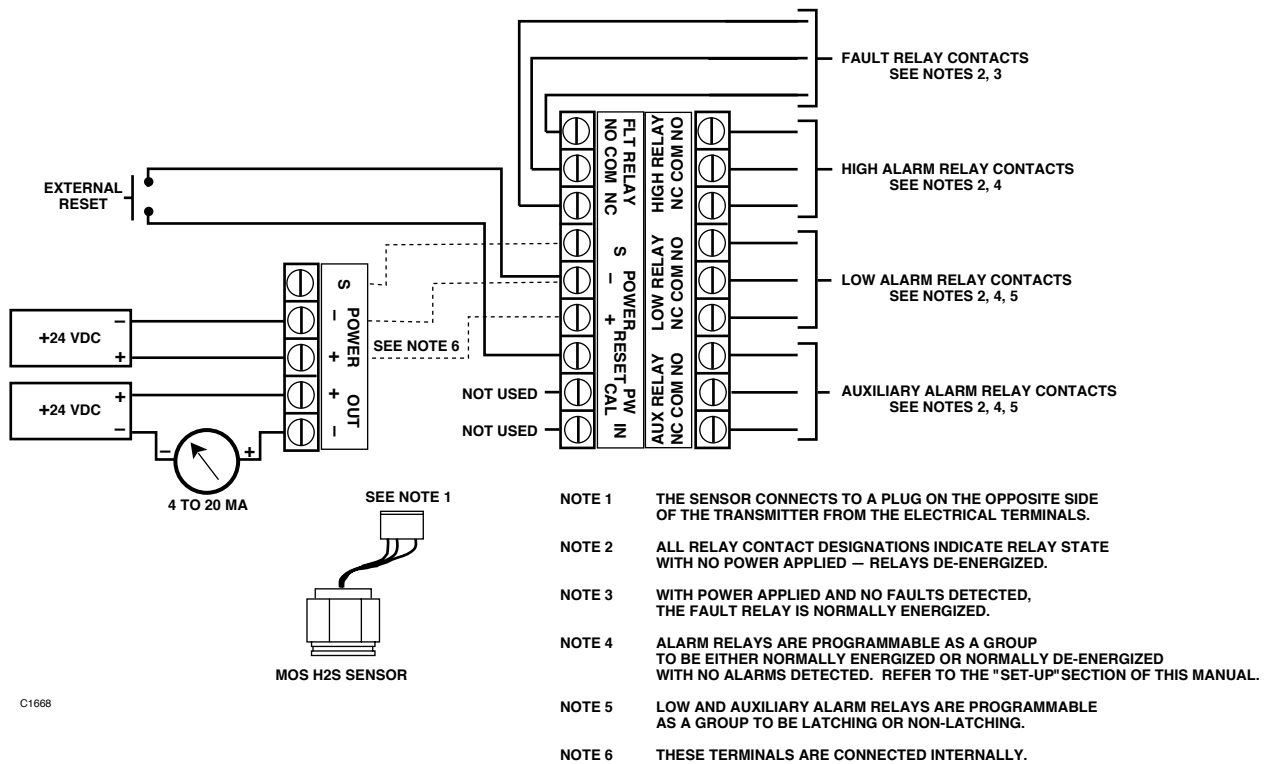

Figure 6—A Typical System - Infiniti Transmitter with Isolated Current Output and Relay Outputs
See Figures 6 and 7 for examples of transmitter wiring.
- Refer to Figures 6 and 7 when connecting external loads to relay outputs.
11. An external reset switch can be wired as shown in Figures 6 and 7. The use of shielded wire is recommended for wiring the switch.